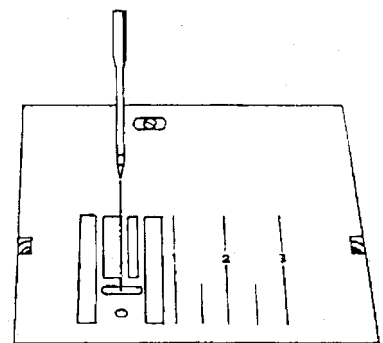

Fig. 31
- Turn the handwheel until the needle point is level with the surface of the needle plate (fig. 31).